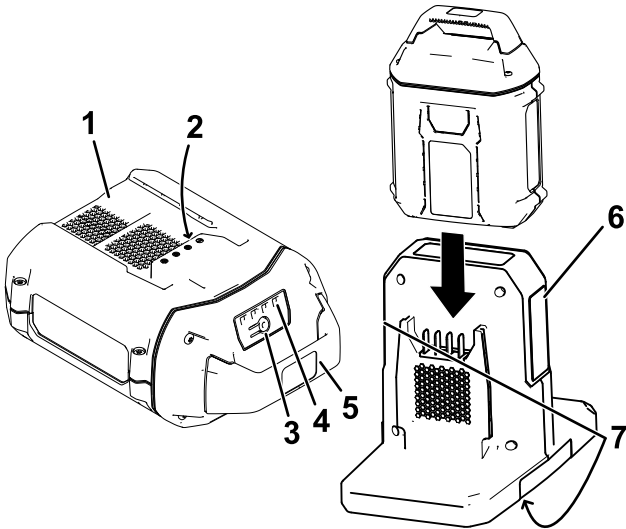

Figure 3
2. Line up the cavity in the battery pack (Figure 3) with the tongue on the charger.
3. Slide the battery pack into the charger until it is fully seated (Figure 3).